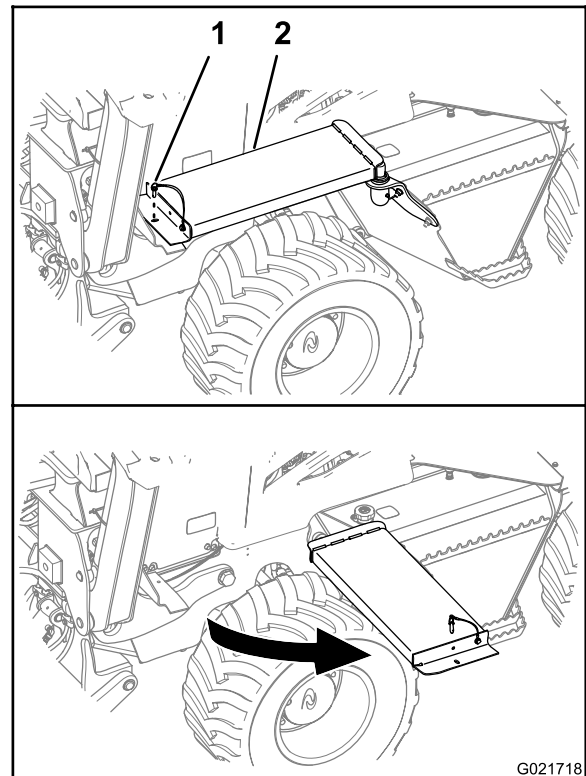

Figure 36
- A. At the left side of the machine, remove the retaining pin from the front end of the walkway (Figure 36).
- B. Pivot the walkway away from the machine as shown in Figure 36.
- A. Rotate the front end of the walkway to its original position (Figure 36).
- B. Align the hole in the walkway with the hole in the walkway support bracket (Figure 36).